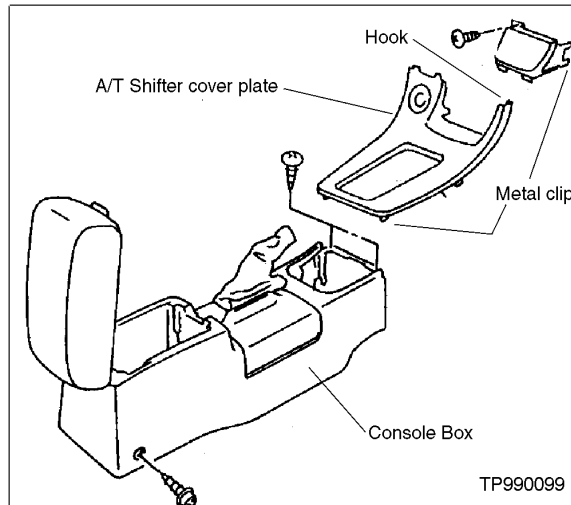

Figure 2
1. Remove the ash tray and the shifter cover plate (see Figure 2). Exercise care when releasing metal clips so as not to damage A/T shifter cover plate.
2. Remove the console box (remove the screws under the shifter cover plate and at the rear of the console box - Figure 2).
2. Remove the ash tray unit and the shifter cover plate(see Figure 2).
3. Remove the console box (remove the screws under the shifter cover plate and at the rear of the console box - Figure 2).